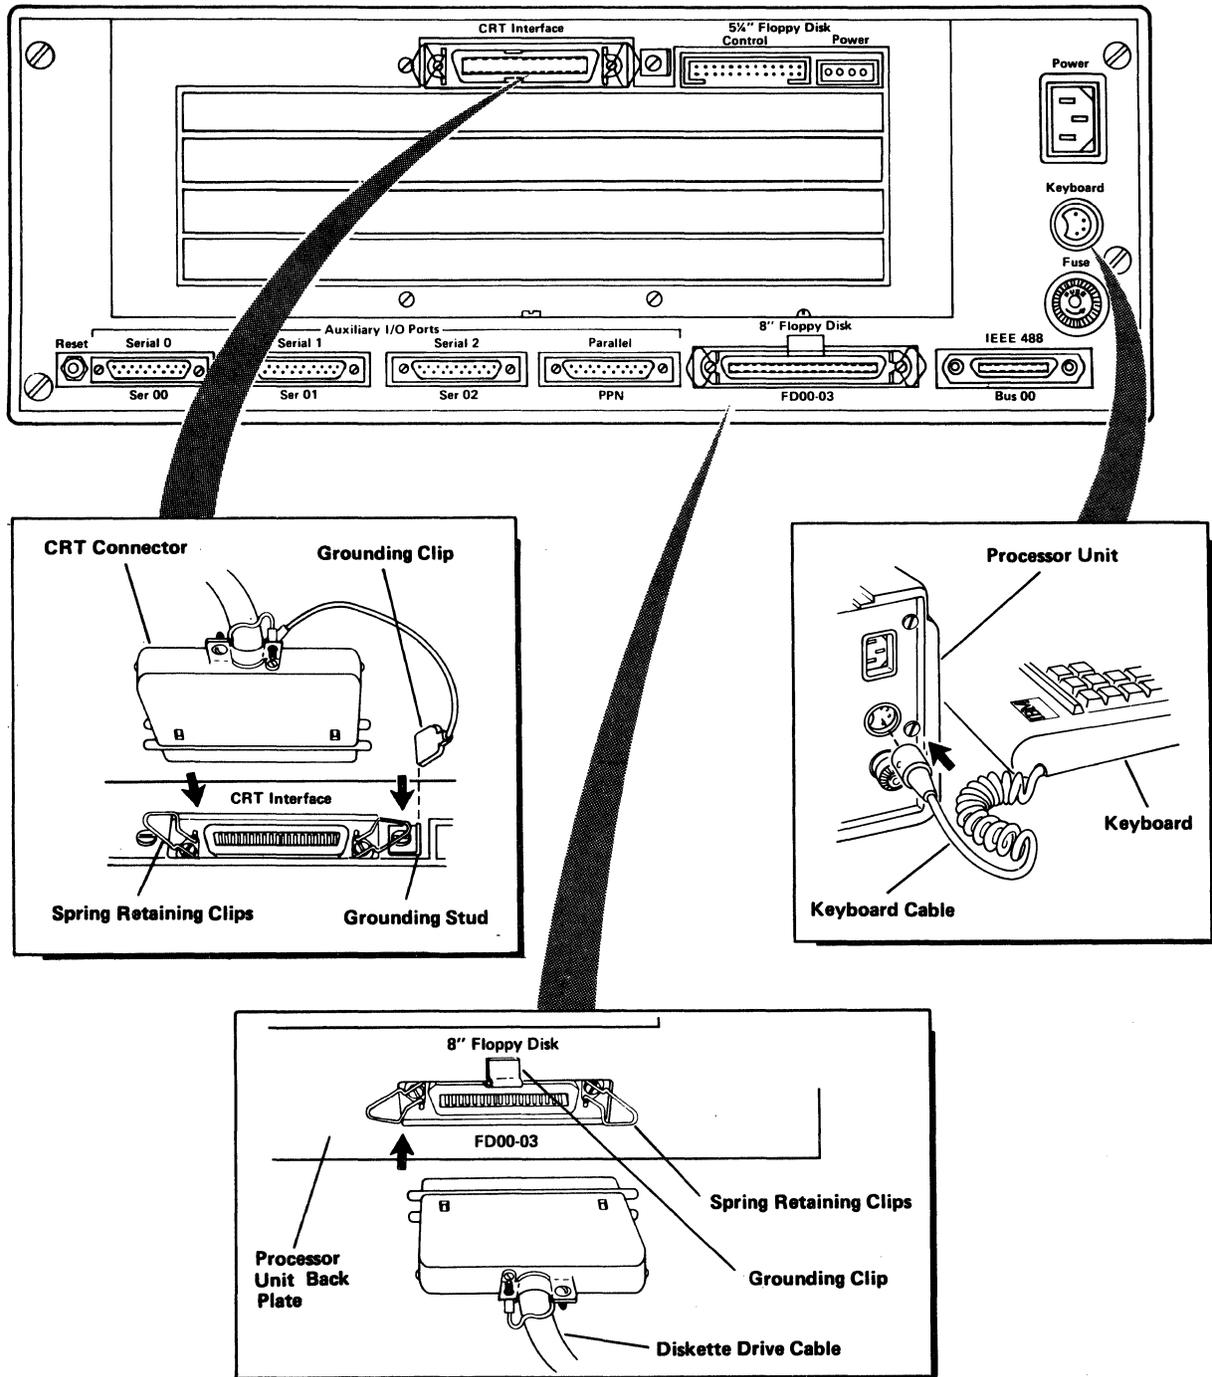

Figure 1-3. CRT Display, Keyboard and Diskette Unit Connections.
4. Attach the bridge mount assembly to the processor unit (E) with the four captive knurled thumb screws (F).
5. Thread the adjustment handle (G) into the gimbal mount until it is tightly seated. Adjust the CRT display for convenient use, then firmly tighten the gimbal mount using the adjustment handle, until the display is steady and cannot tip. Check the handle occasionally to ensure that it is tightly seated.
6. Connect the CRT display cable to the back of the processor unit by pushing the connector into position until it fits snugly; snap the spring retaining clips into position, and push the ground wire clip onto the grounding stud. (See Figure 1-3).
1. Connect the keyboard cable to the back of the processor unit at the position indicated in Figure 1-3.
2. Connect the diskette drive cable to the processor unit by pushing the connector into position up under the grounding clip and then straight forward until it is fully seated. Snap the spring retaining clips into position (See Figure 1-3).